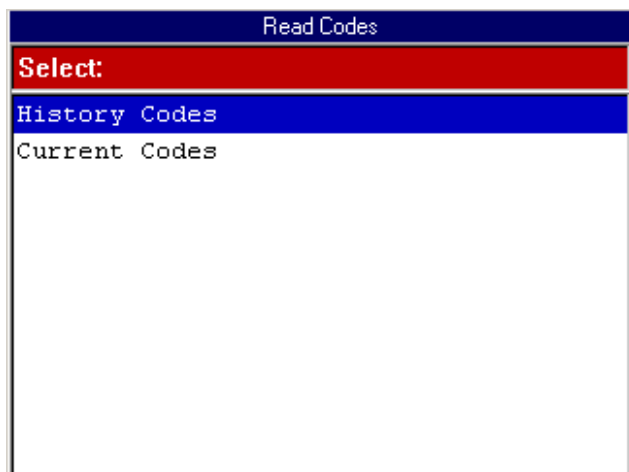

Figure 5.5: Read Codes Menu Screen
- If the vehicle's ECU stores current and history codes, the Read Codes menu screen appears (see Figure 5.5). Continue with the next step.